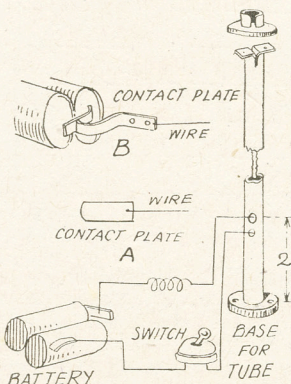

Fig. 4—Theoretical circuit of lamp
To form a fixing for the bulb holder which may be purchased ready-made and with the necessary points to which the flex may be attached, the tube is cut down at the top end and the two 'leaves' turned down or folded back and then drilled, as the detail Fig. 4 shows. Two holes are next drilled in the tube at about 2ins. up from its base for the flex to pass through on its way up to the top.
The arrangement of the batteries and the method of wiring is shown in Fig. 4. The batteries lie to the left of the lamp and in the corner of the box, being held in place there by two small-section wood fillets.
plate is fixed to the floor of the box just where the batteries will rest. The raised contact piece on the batteries will meet the plate which has one of the flex wires attached to it, see enlarged detail at (A) in Fig. 4.